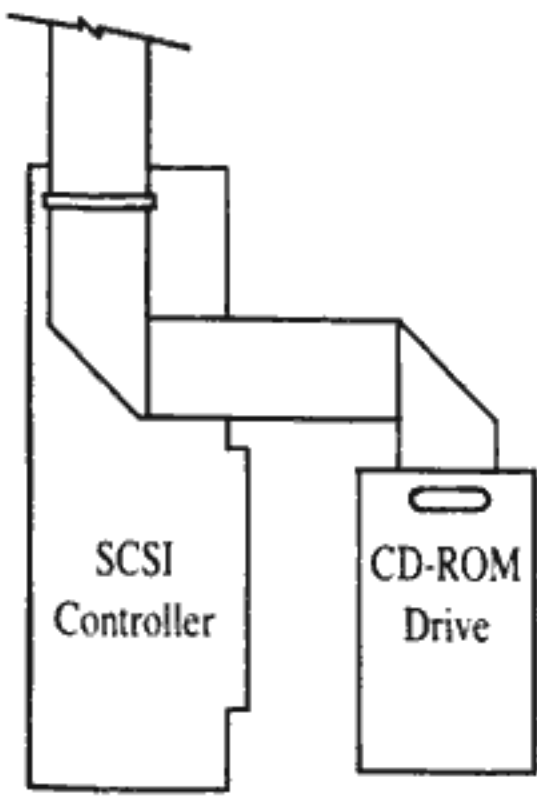
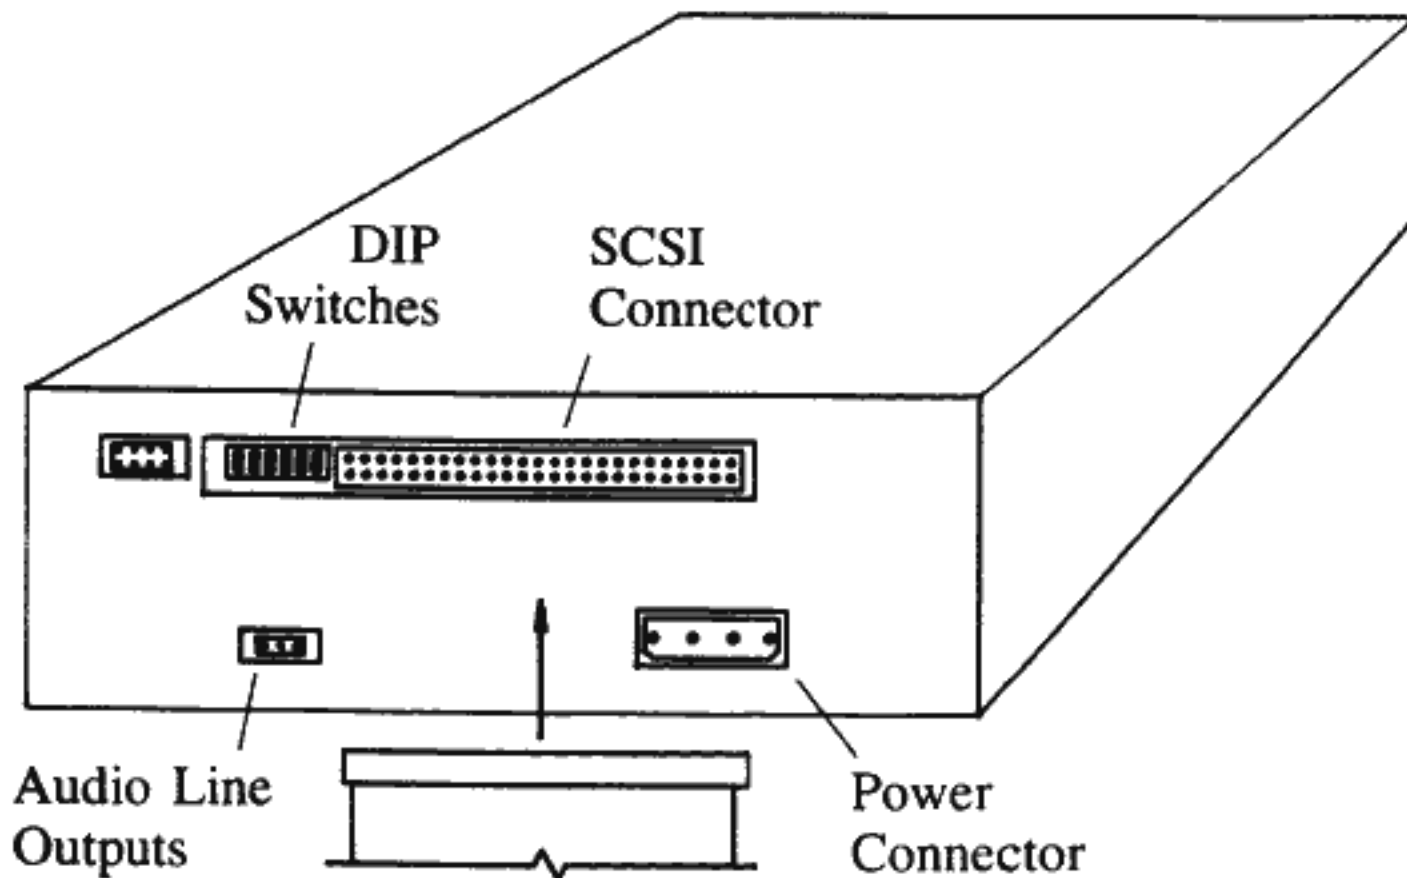

Fig. 5 - Internal System
Fig. 9 - CDx-650I Drive Back View
- 2) Determine which of figures 5, 6, or 7 will most closely match your system. Set the drive termination appropriately (see fig. 8).
- 7) Refer to fig. 9 and 5, 6, or 7 (p. 9, whichever is applicable for your installation). Connect the ribbon cable to the SCSI controller, CD-ROM drive, and optional hard drive as shown. Be sure that at each device, the colored stripe on the cable corresponds with the end marked as pin 1. If you must remove older cables to install this new cable, you can usually rely on the orientation of the stripe to determine pin 1. If you're unsure about the correct orientation of any connector, get help before you turn anything on! A reversed connector can cause damage. Note in fig. 5 that the free connector is left unconnected.